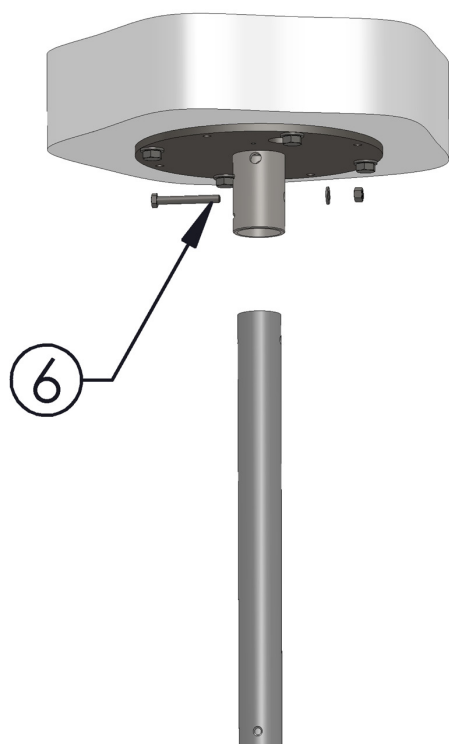

Fig. 6.0
6. Assemble ceiling tube to ceiling plate, with the locking bolt and nut, as shown in Fig. 6.0